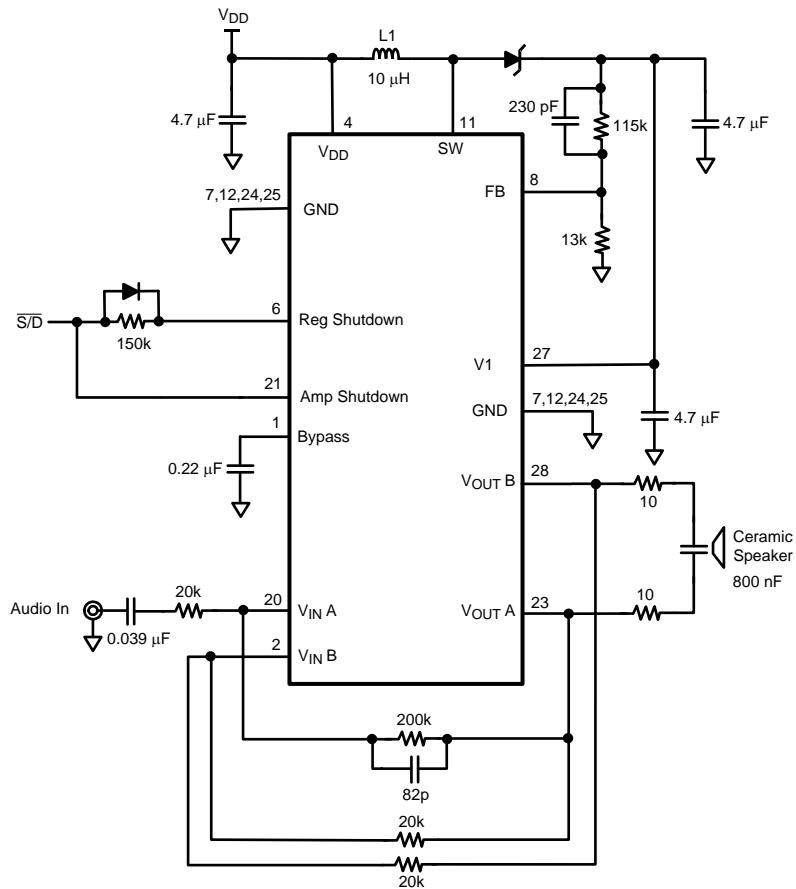

Figure 2. Typical Audio Amplifier Application Circuit
- (1) All voltages are measured with respect to the GND pin, unless otherwise specified.
- (2) Absolute Maximum Ratings indicate limits beyond which damage to the device may occur. Operating Ratings indicate conditions for which the device is functional, but do not ensure specific performance limits. Electrical Characteristics state DC and AC electrical specifications under particular test conditions which ensure specific performance limits. This assumes that the device is within the Operating Ratings. Specifications are not ensured for parameters where no limit is given, however, the typical value is a good indication of device performance.
- (3) If Military/Aerospace specified devices are required, please contact the Texas Instruments Sales Office/ Distributors for availability and specifications.
- (4) The maximum power dissipation must be derated at elevated temperatures and is dictated by T_{JMAX} , θ_{JA} , and the ambient temperature, T_A . The maximum allowable power dissipation is $P_{DMAX} = (T_{JMAX} - T_A) / \theta_{JA}$ or the given in Absolute Maximum Ratings, whichever is lower. For the LM4960 typical application (shown in Figure 2) with $V_{DD} = 12V$, $R_L = 4\Omega$ stereo operation the total power dissipation is 3.65W. $\theta_{JA} = 35^\circ\text{C}/\text{W}$.
- (5) Human body model, 100pF discharged through a 1.5kΩ resistor.
- (6) Machine Model, 220pF–240pF discharged through all pins.